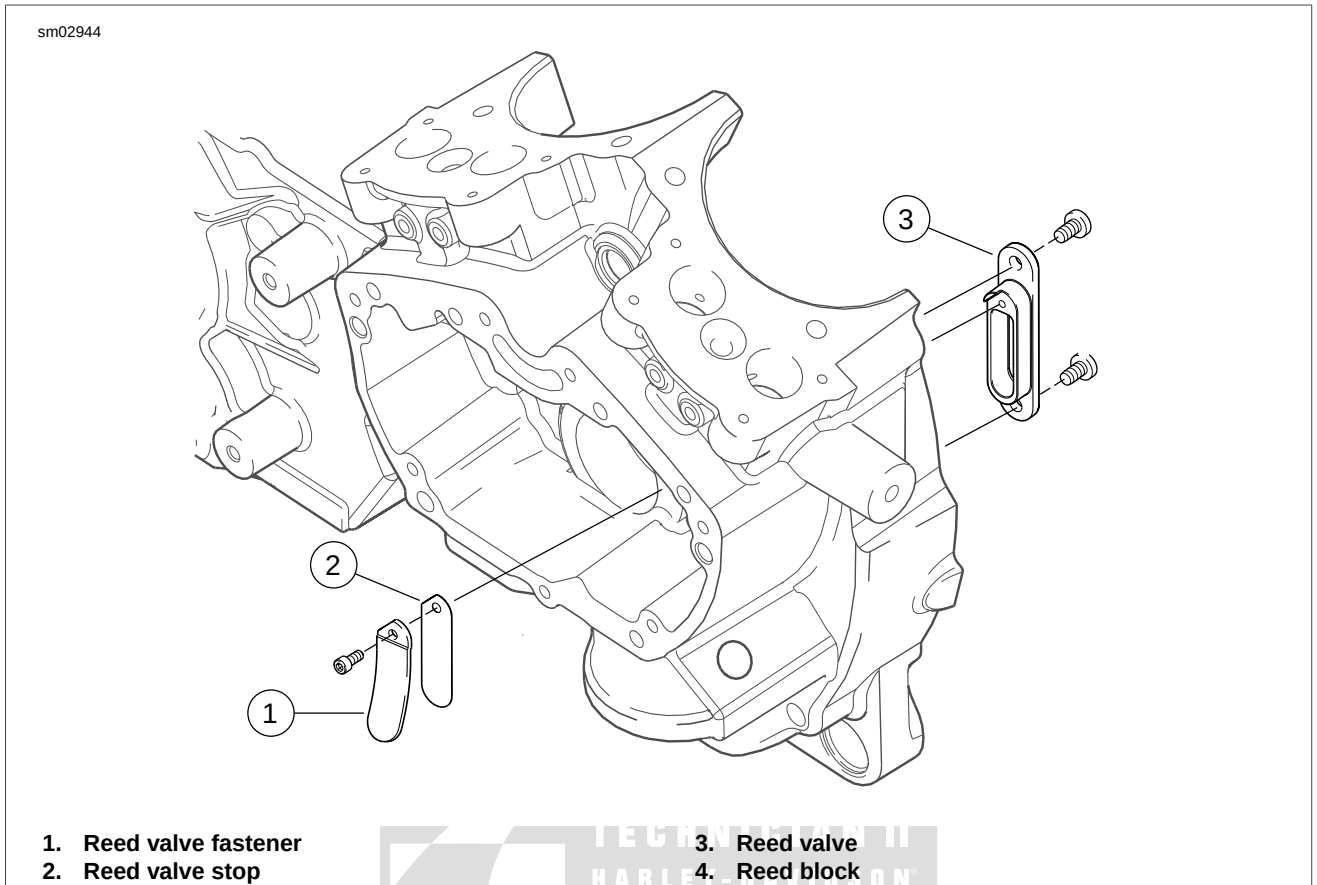

Figure 3-105. Reed Valve Assembly
- See Figure 3-105. The reed valve (3) opens on the downstroke to relieve crankcase pressure and closes on the upstroke to prevent vapors returning to the crankcase. The curved reed valve stop (2) limits the movement of the reed valve.
- Remove the fastener (1), the reed valve stop (2) and the reed valve (3).
- To replace the assembly, align the edges of the reed valve (3) and the reed valve stop (2) to prevent premature failure of the reed valve.